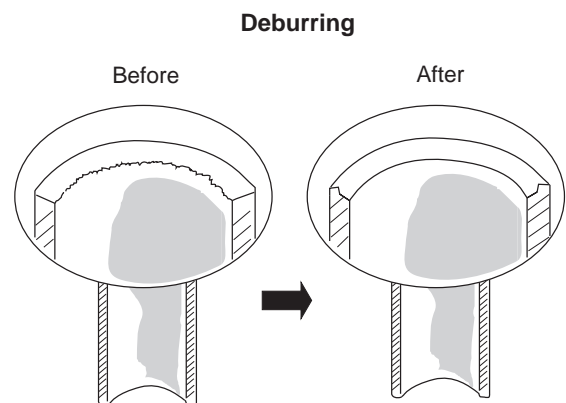

Fig. 8
- (1) Cut the copper tube to the required length with a tube cutter. It is recommended to cut approx. 30- 50 cm longer than the tubing length you estimate.
- (2) Remove burrs at the end of the copper tube with a tube reamer or file. This process is important and should be done carefully to make a good flare. (Fig. 8)